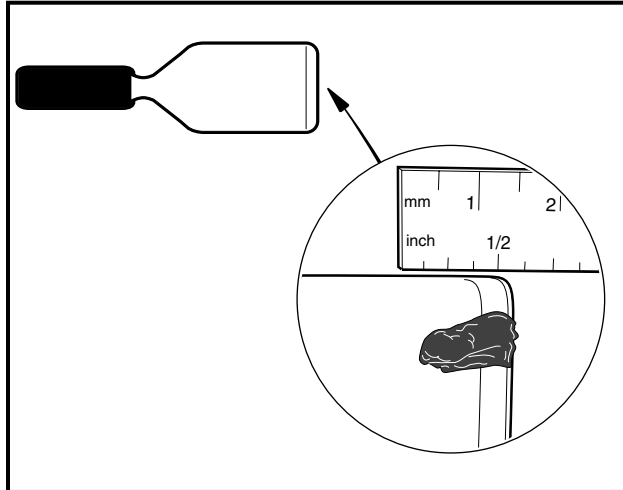

Figure 15-14 Grease on Putty Knife
- 2.1. Squeeze approximately 1/2 inch (1.3 cm) of moly-teflon lubricant (CCI P/N 102265201) from tube onto a putty knife as shown (**Figure 15-14, Page 15-13**).